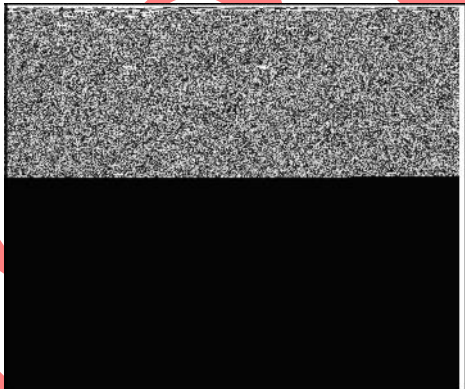

Figure 49
- Install new foam seal and return spring on choke shaft (**C**, Figure 49) with straight end of spring against choke shaft lever (**B**).